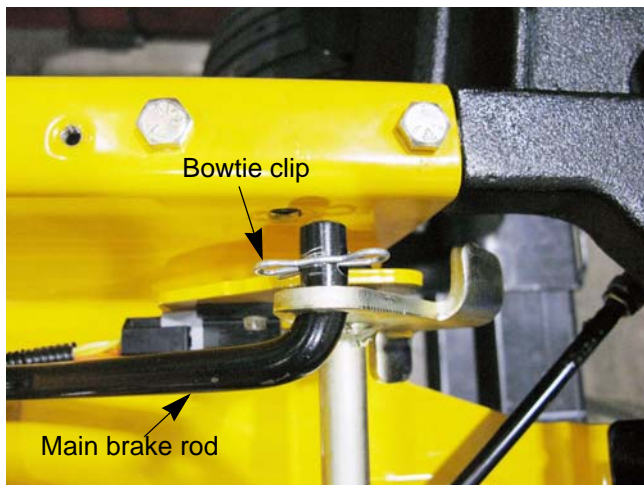

Figure 4.44
13. Remove the bowtie clip and disconnect the main brake rod. See Figure 4.44.